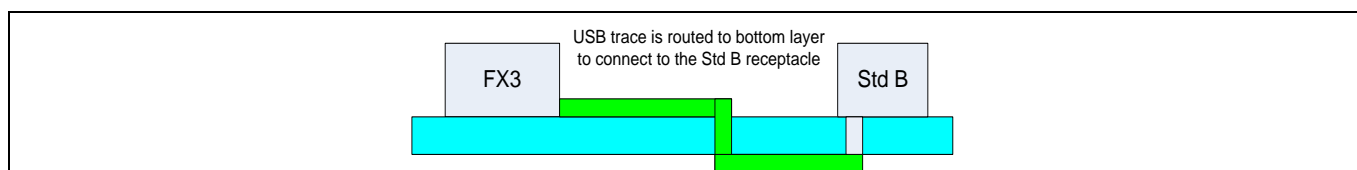
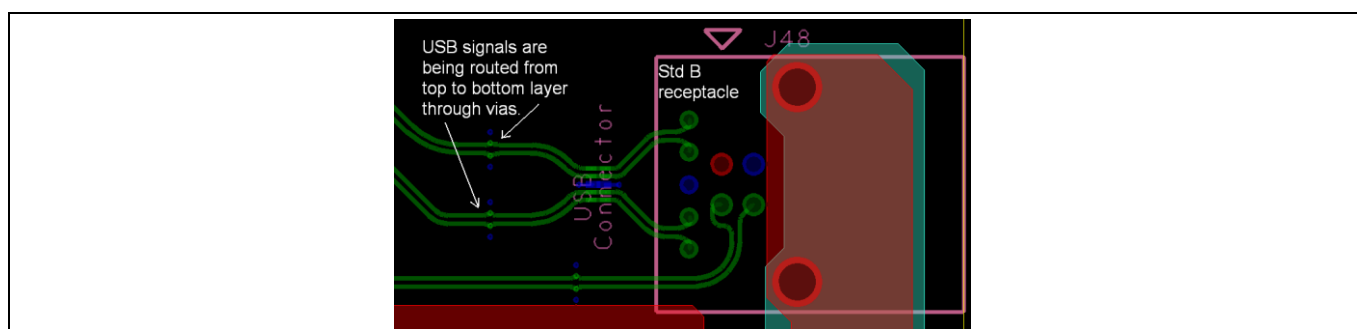
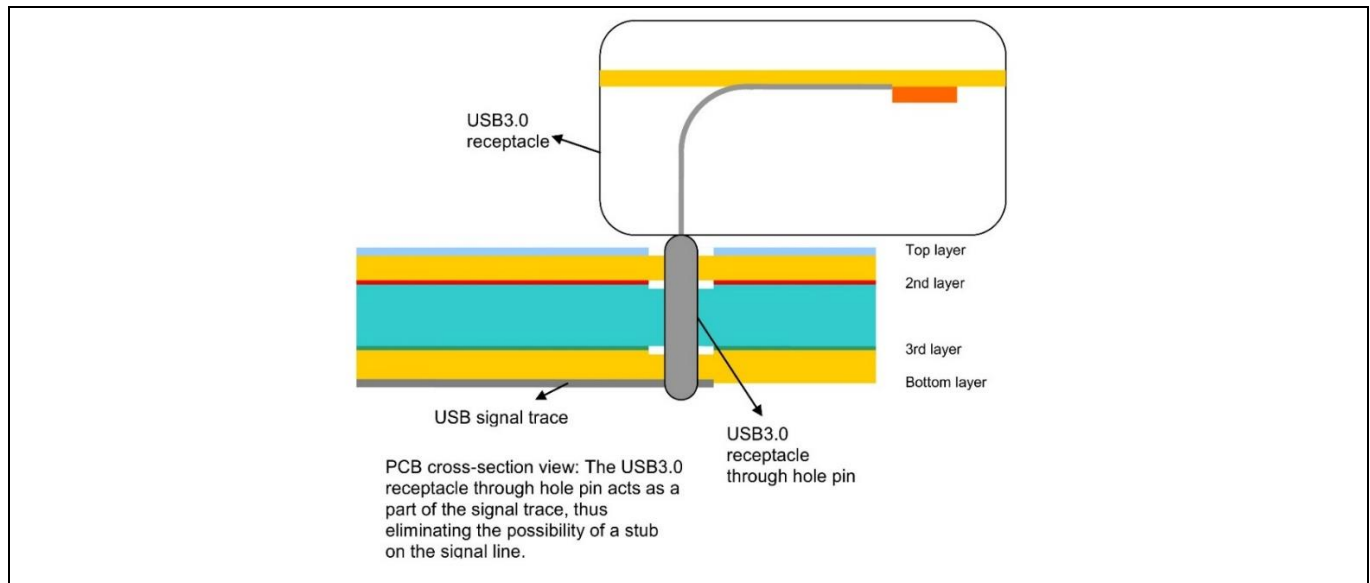
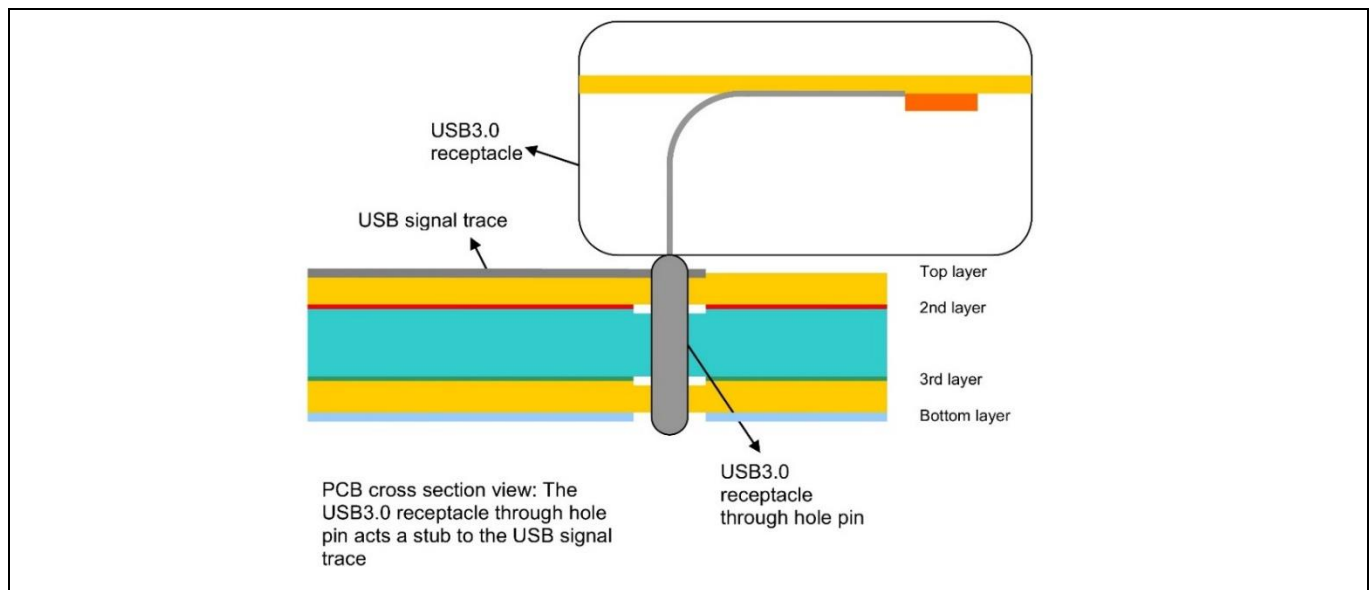

Figure 30 Standard-B receptacle placement
Figure 31 Standard-B receptacle layout
Figure 32 USB signals connected on the opposite side of the standard Type-B USB receptacle (recommended layout)
Figure 33 USB signals connected on the same side of the standard Type-B USB receptacle (not recommended)
- It is highly recommended that, when using a standard B receptacle (through-hole receptacle), the USB signal lines are connected to the receptacle pins on the opposite layer of where the receptacle is placed as shown in Figure 30 and Figure 31. For example, if the standard B receptacle is placed on the top layer, the signal lines should connect to the receptacle pins on the bottom layer. This prevents the unnecessary stubs due to the USB receptacle pins. A diagram of the recommended layout versus the stub producing layout is illustrated in detail in Figure 32 and Figure 33 respectively. To avoid introduction of vias, the EZ-USB™ FX3 device can be placed on the opposite layer of the standard B receptacle. In this case, the USB traces can be routed entirely on the same layer.